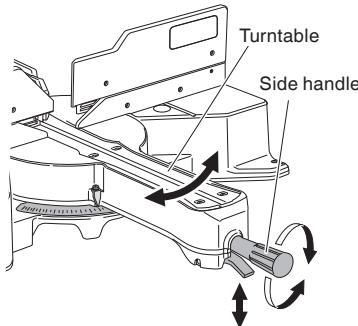

Fig. 34
(1) Rotate the turntable to the miter angle you need.
(2) After adjusting to the desired angle, tighten the side handle. (Fig. 34.)